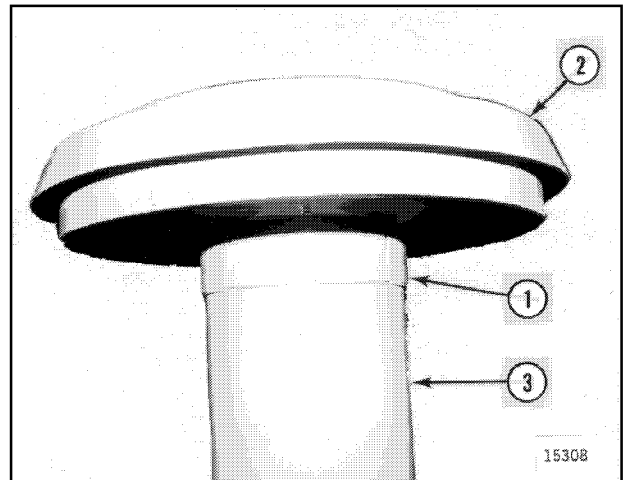

Figure 29
14. Secure air intake cap (2, Figure 29) to air intake tube (3) with clamp (1).